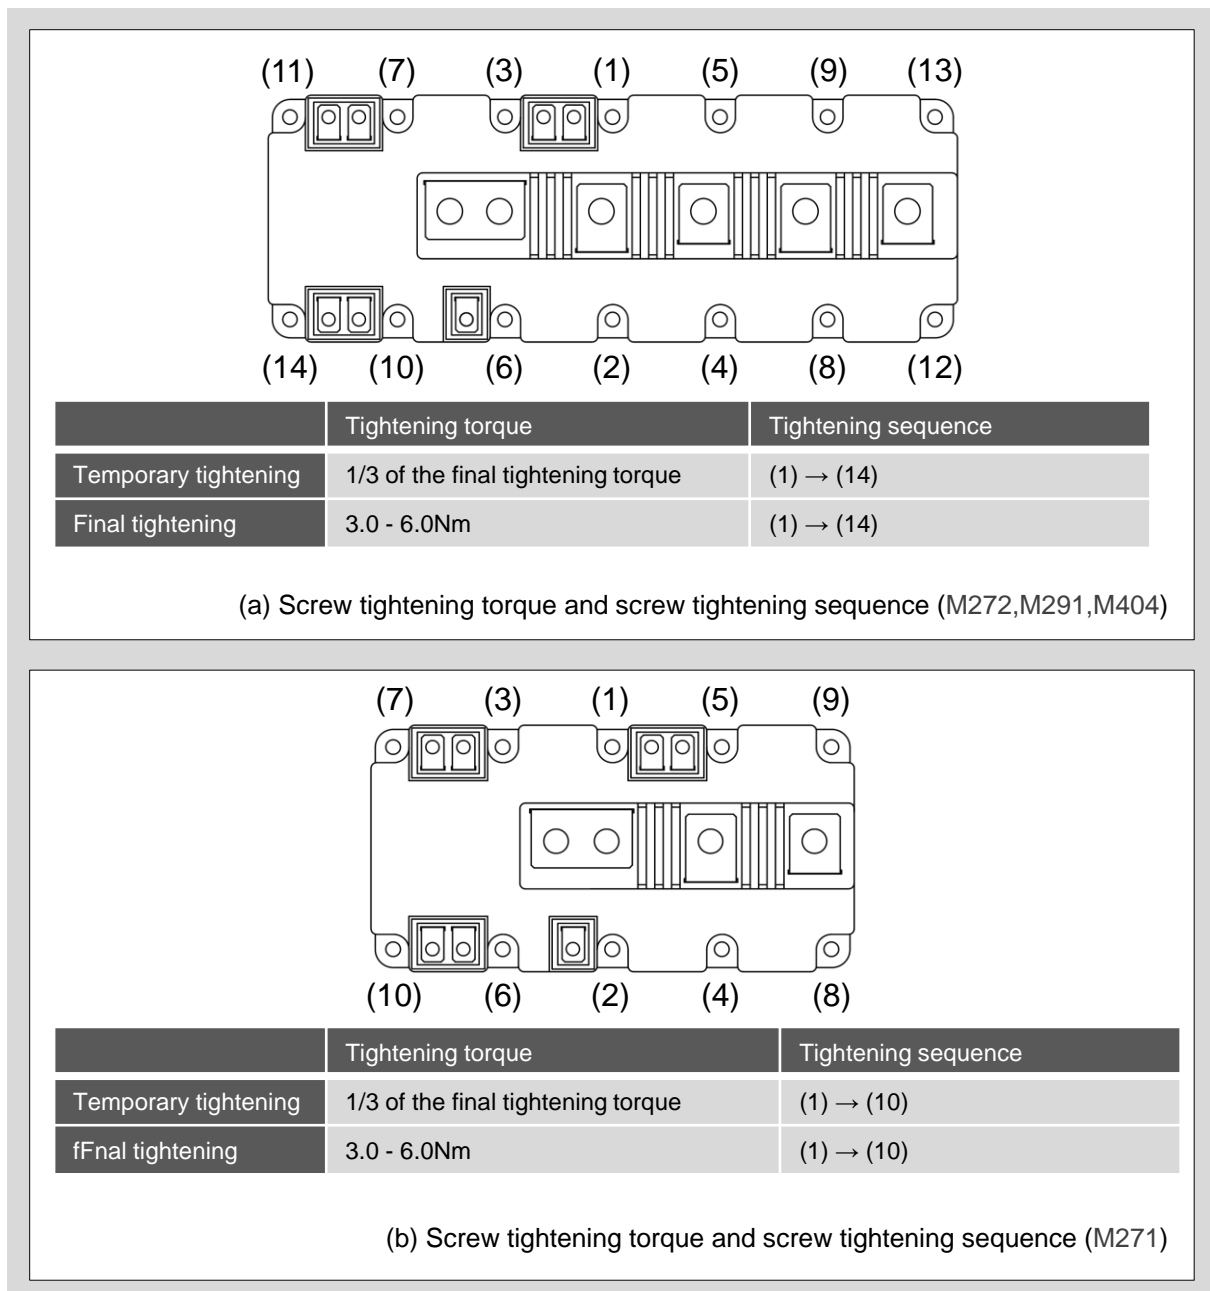

Fig.3. Tightening torque and tightening sequence
1. Perform temporary tightening with 1/3 of the final tightening torque. Fig.3 shows the tightening sequence.